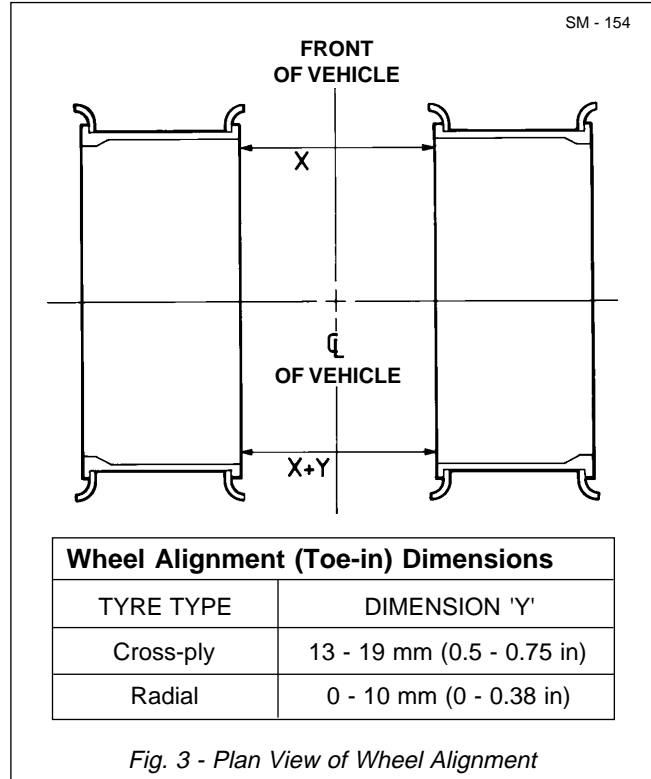

Fig. 3 - Plan View of Wheel Alignment
If adjustment is necessary, loosen nuts (47) and bolts (46) at each end of tie rod (35) assemblies. Turn tie rods (35) with a pipe wrench until correct toe-in dimension is obtained. Refer to Fig. 3.